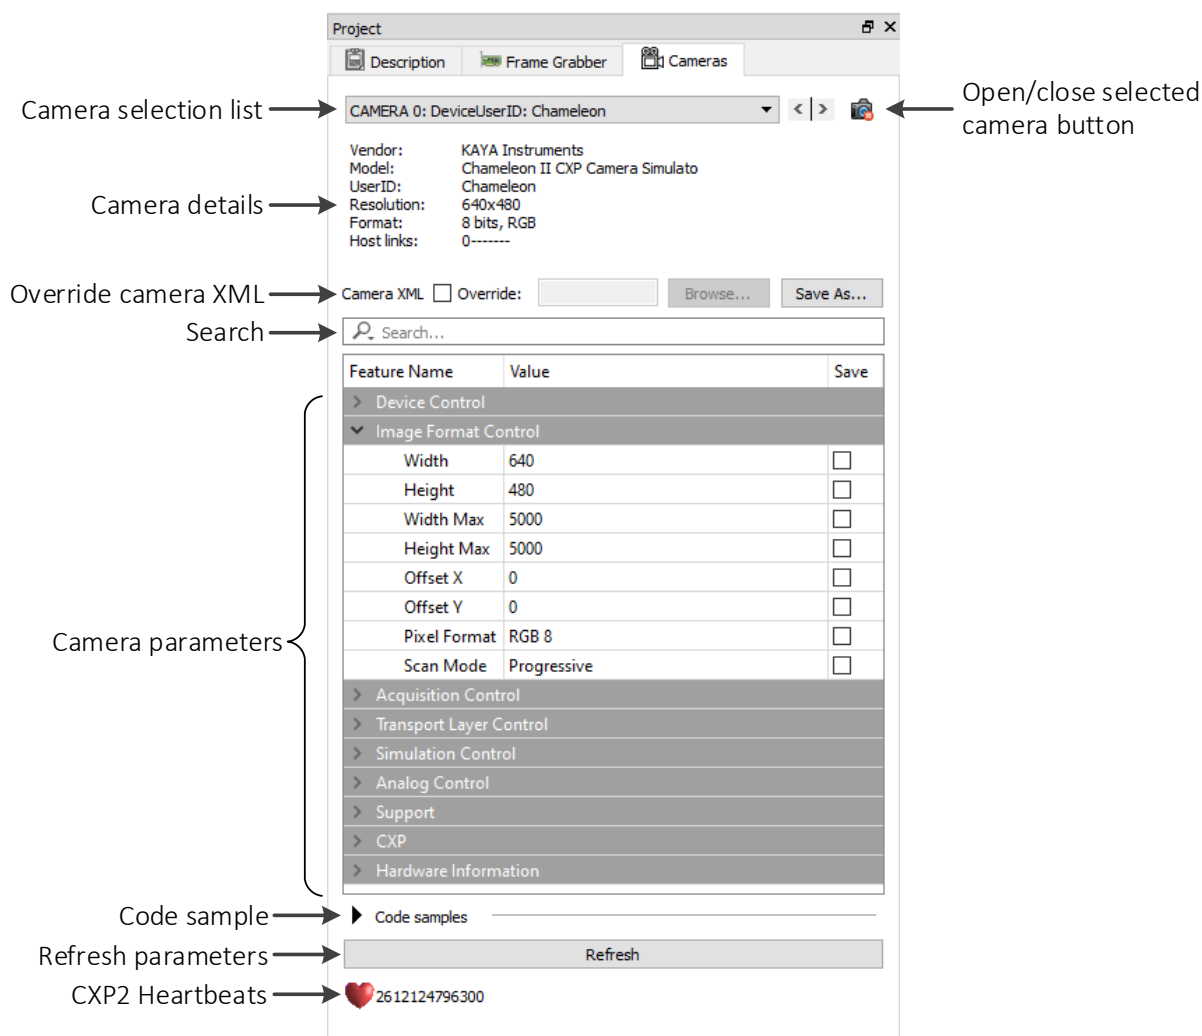

Figure 5 – Camera navigator tab
3. A Camera tab enables configuring the camera GenCam parameters listed in the camera XML file. An external XML file may be loaded in the absence of a native one from the camera. The camera tab is shown in Figure 5.